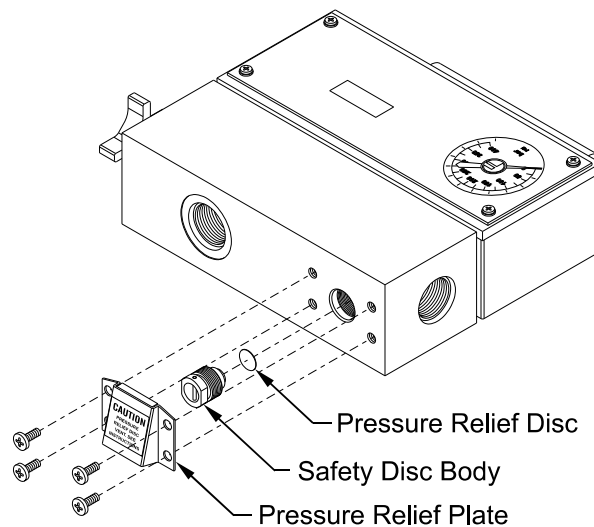

FIGURE 6 - Burst Disc
1. Position the tester block so that the pressure relief plate is accessible as shown in Figure 6.